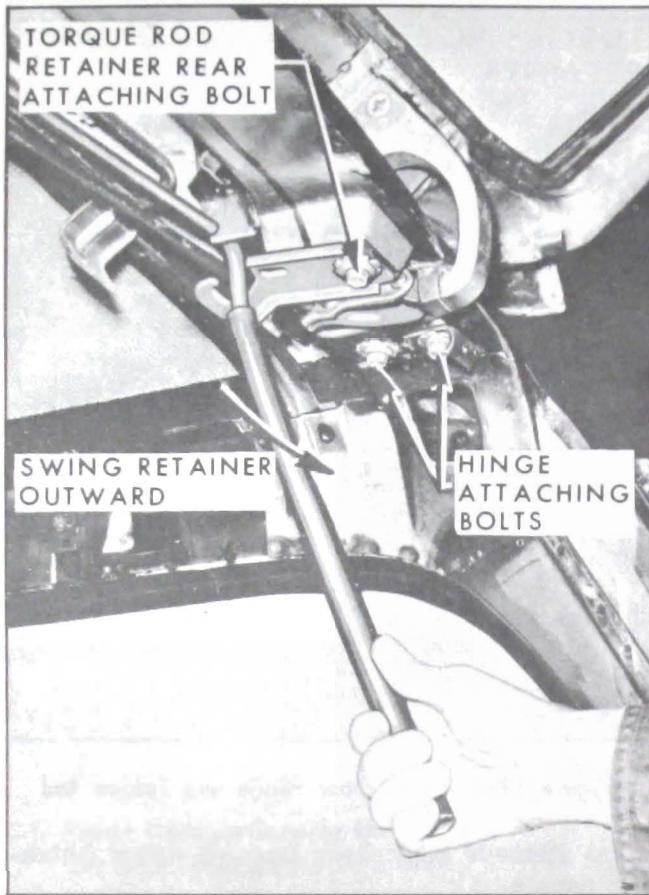

Figure 13-78—Back Door Hinge and Torque Rod Removal
4. Using a suitable length of pipe over end of torque rod, release tension of torque rod from retainer. While tension of torque rod is released from retainer, remove retainer front attaching bolt and loosen (no more than two (2) turns) retainer rear attaching bolt; then, swing front end of retainer towards outside of body and release torque rod. See Figure 13-78.